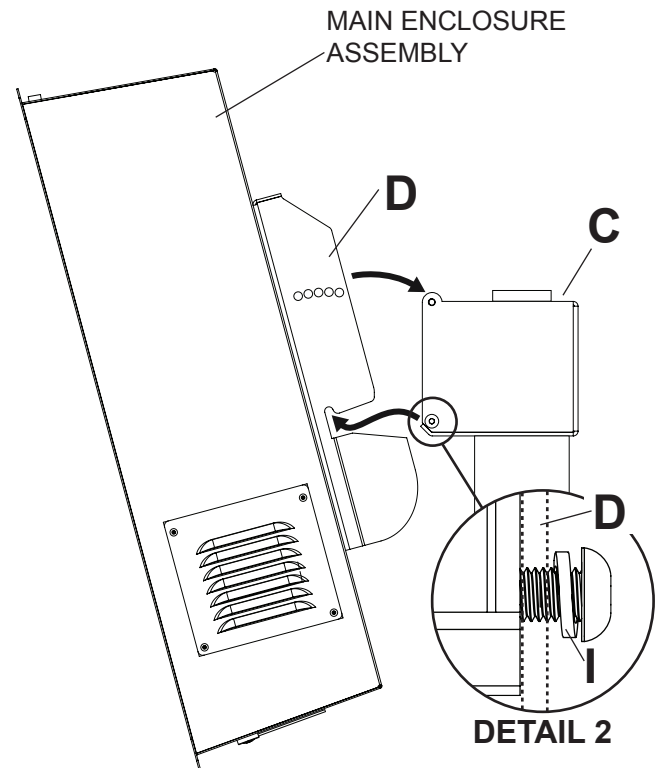

fig 5.1
**5** Hook tilt plate (**D**) onto bottom socket screws threaded into adapter box (**C**) and select desired tilt angle ( $0^{\circ}$  to  $15^{\circ}$ ) as shown in figure 5.1. **NOTE:** Be sure split lock washer (**I**) is on outside of tilt plate as shown in detail 2.